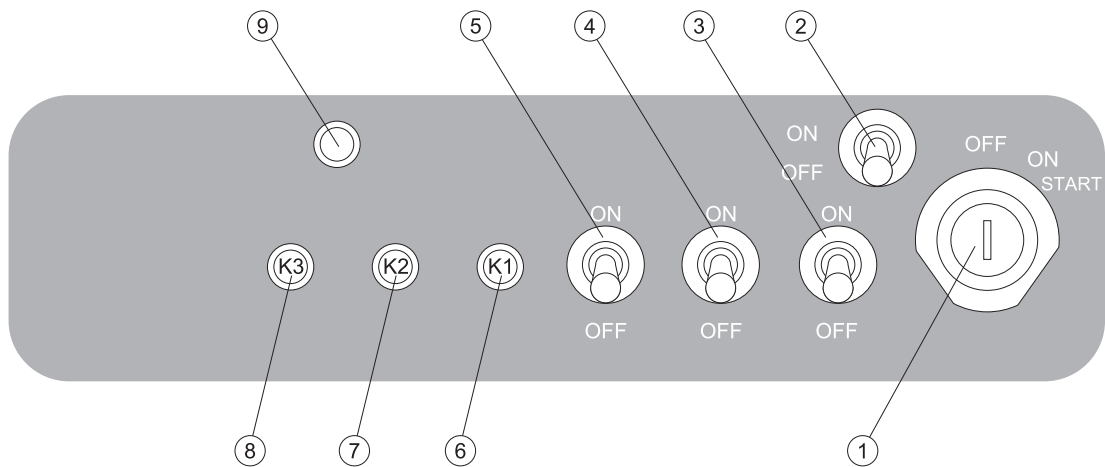

Figure 2-36: GPS system's switch button panel
This switch panel consists of 3 reset switch buttons, 4 toggle switches and 1 key switch, as shown in Figure 2-36:
5. Pressing the K1 key (as shown in Figure 2-36) can shield the buzzer's sound.